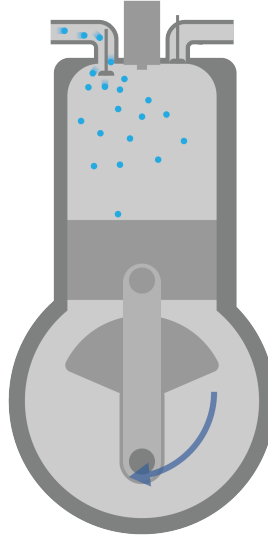

Figure 1.2: The intake stroke allows gas and oxygen into the combustion chamber.
- As the drive shaft turns, it pulls the piston down. The intake valve opens and lets the gas/air mixture into the combustion chamber. See Figure 1.2.